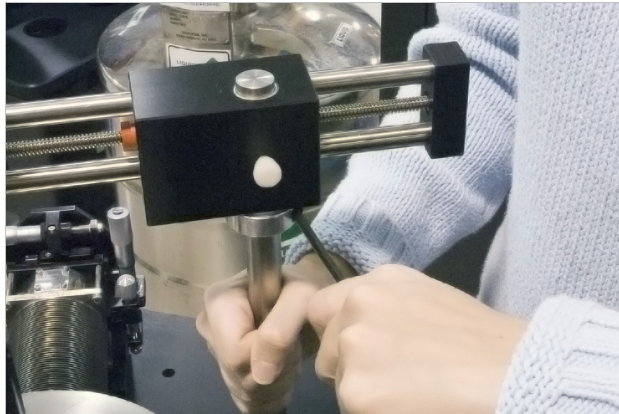

FIGURE 6-6 Microscope focus adjustments
3. While supporting the microscope with one hand to prevent it from falling, use the  $\frac{3}{16}$  in hex driver to loosen the shaft collar (FIGURE 6-6).